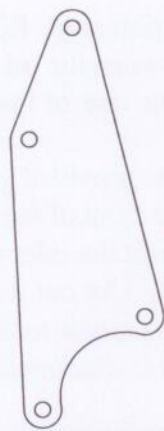

FIGURE D1
1. Bolt the rear power steering bracket to the port side head using the two outermost mounting holes on the head. Orient as shown in Figure D1. Use the 7/16" x 1" bolt in the lower hole and leave the upper hole vacant.